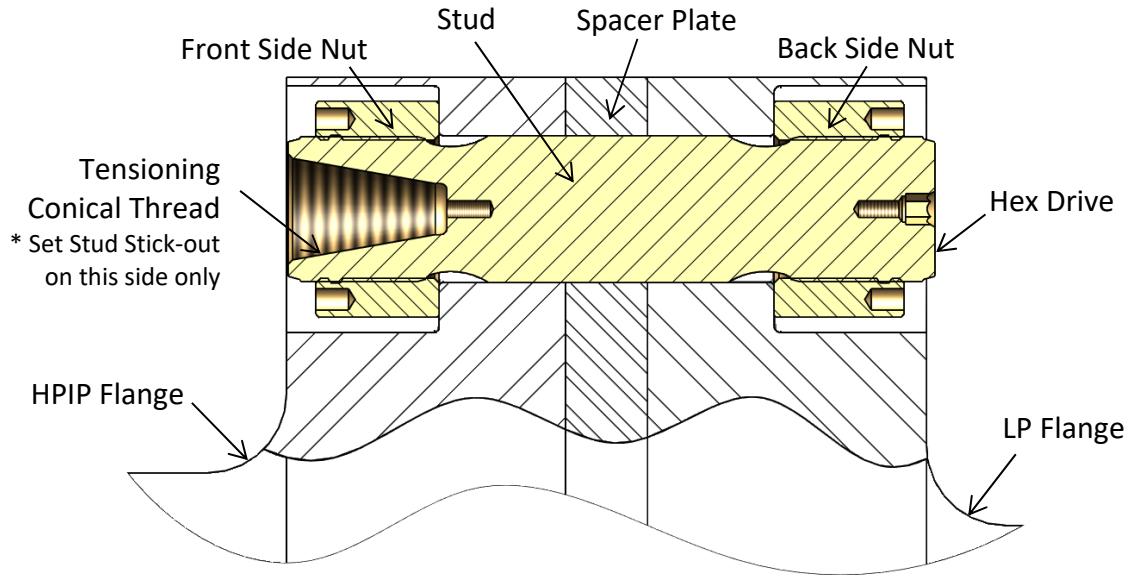

Figure 6A – Cross-section View of D602 HPIP to LP
4. Slide the stud, and nut into the flange as shown in Figures 6A, 6B, 6C, and 6D.